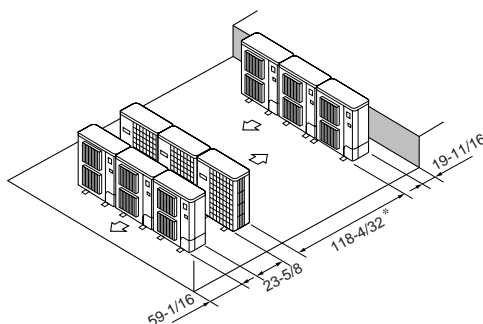

Fig. 2-13
- ⑥ Multiple parallel unit arrangement (Fig. 2-13)